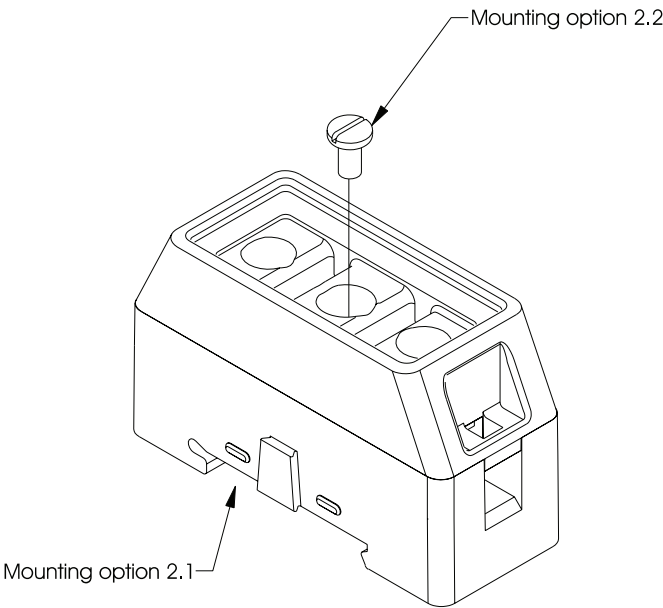

Figure 1
- 2.1 35 mm Din Rail Mount (see Figure 1)
- 2.2 Screw Mount (see Figure 1)